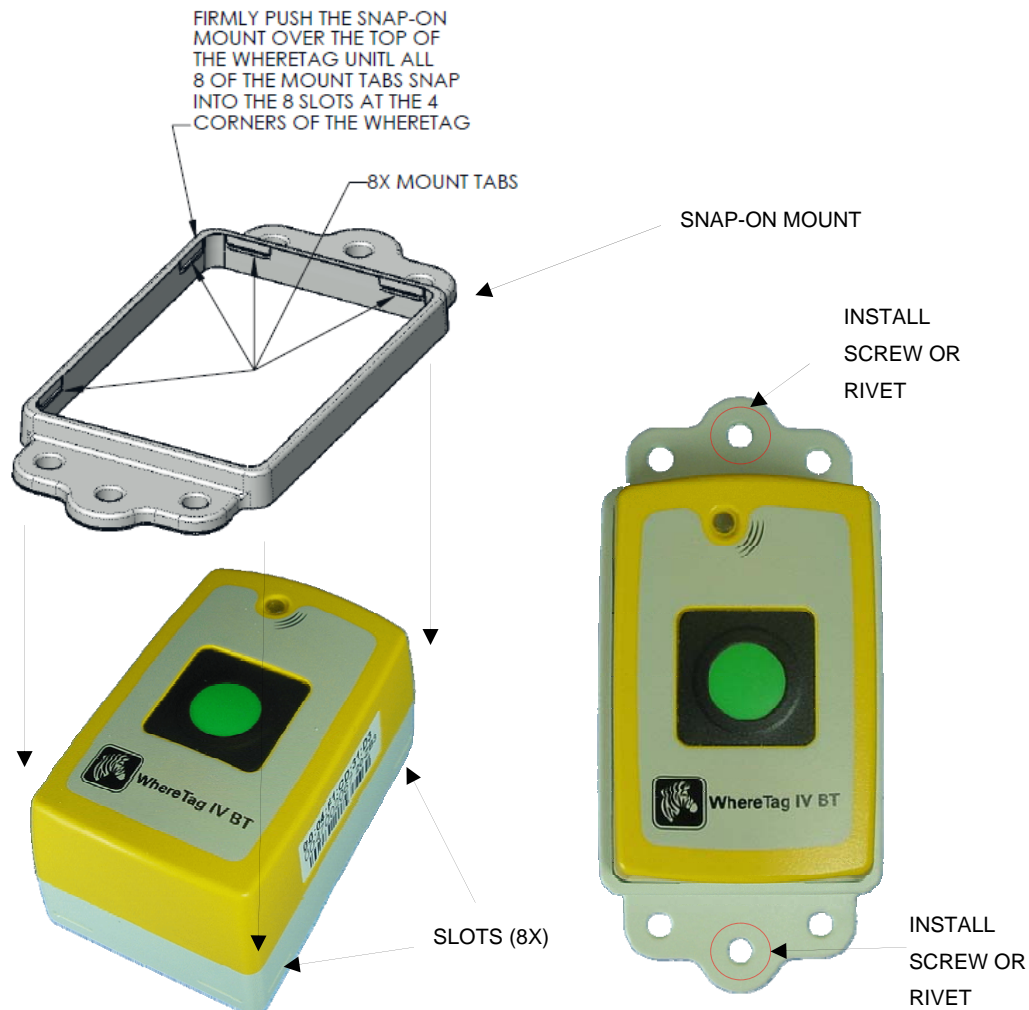

Figure 4: Snap-on mount
| FIGURE 4: SNAP-ON MOUNT | 15 |
2. Attach the snap-on mount to the desired location using two screws or rivets (see figure 4).